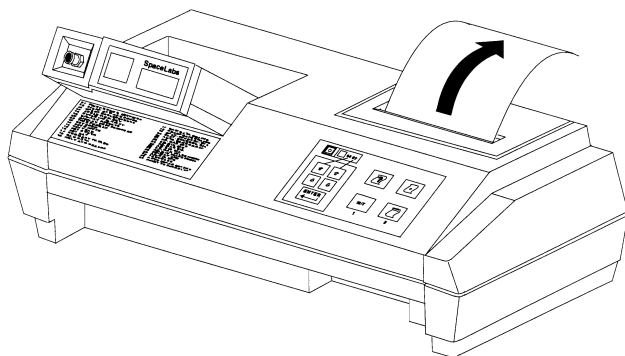

Figure 1-6: Clearing paper jams
- Do NOT pull the paper backwards through the printer. Reversing the normal direction of paper flow may permanently damage the paper-feed mechanism. Pull the remaining paper out only in the direction indicated in *Figure 1-6*.